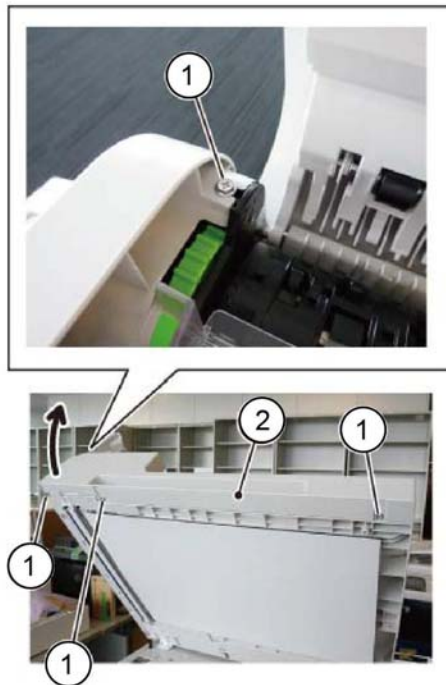

Figure 1 Front cover removal
3. Remove the DADF front cover, Figure 1:
- a. Remove four screws (1).